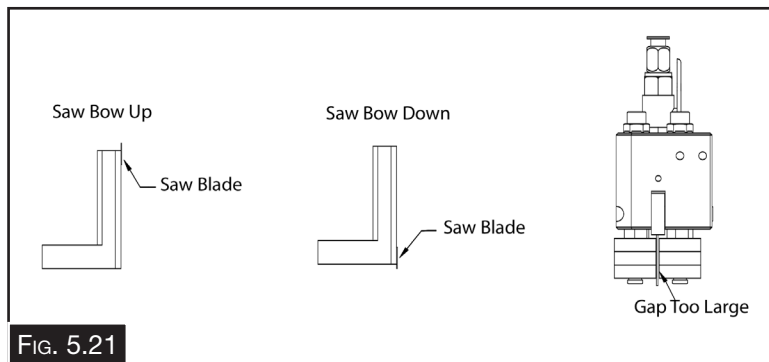

FIG. 5.21
2. Inspect the blade guides to see if there is a gap between the bearings and the blade (Fig. 5.21)